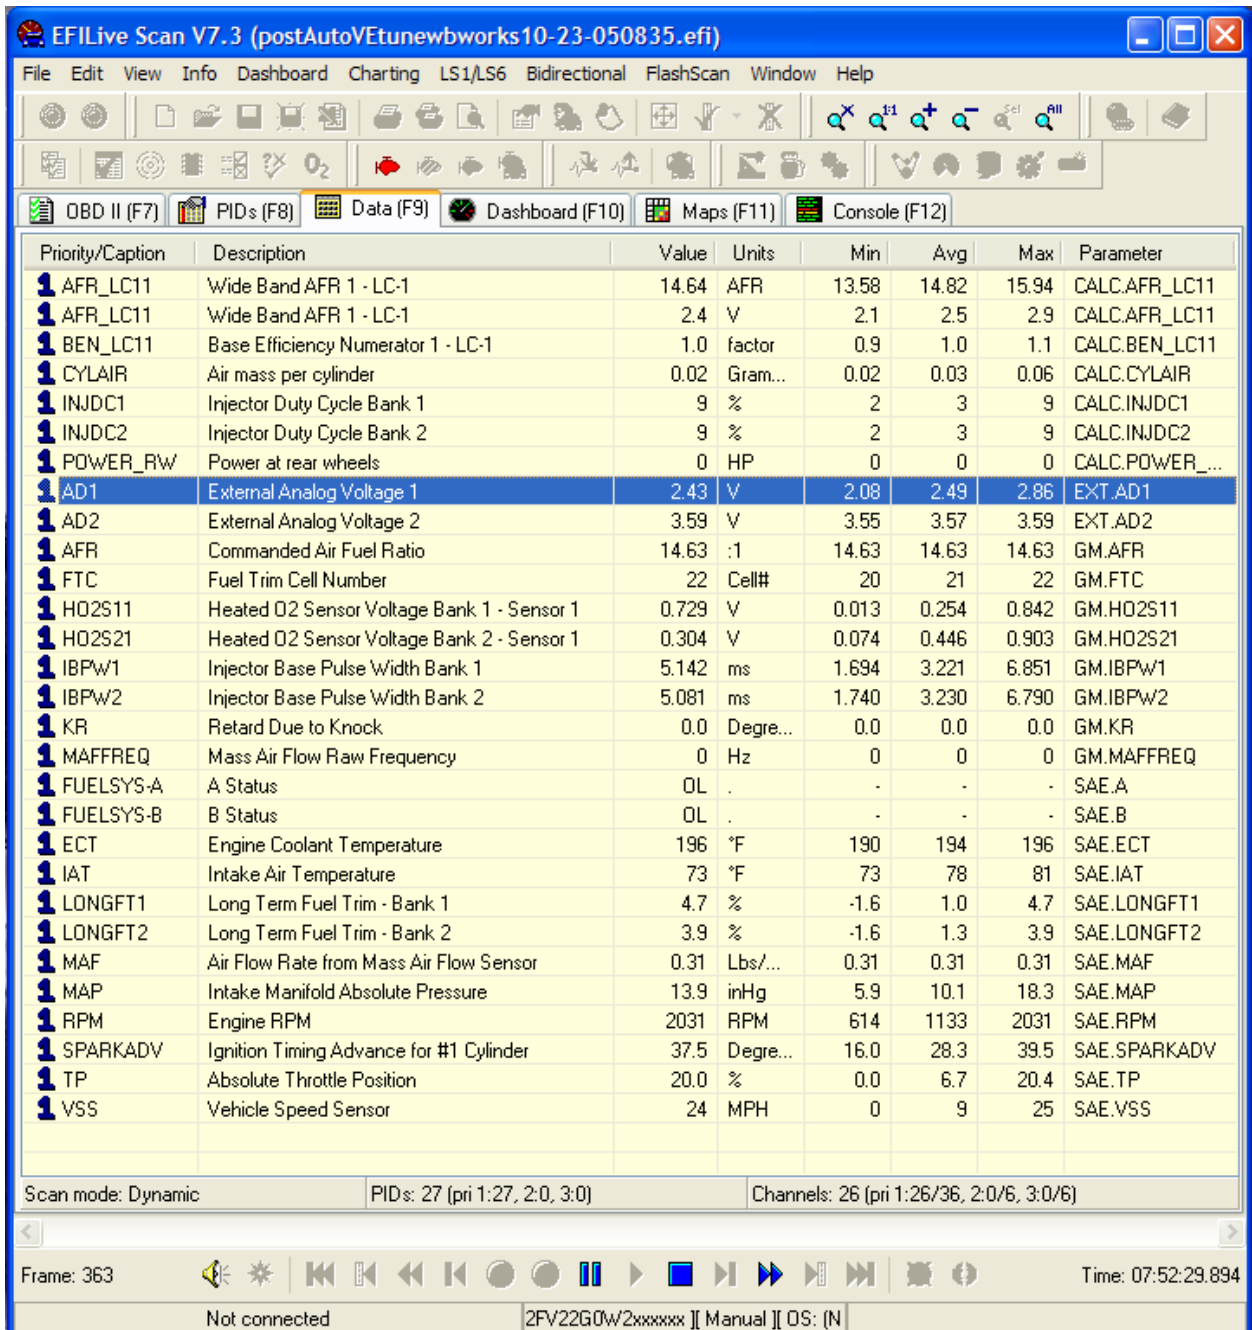

Figure 4: Sample Data Log
4. Click the "Data" tab and see which {EXT.ADx} is connected. See Figure 4 for example.